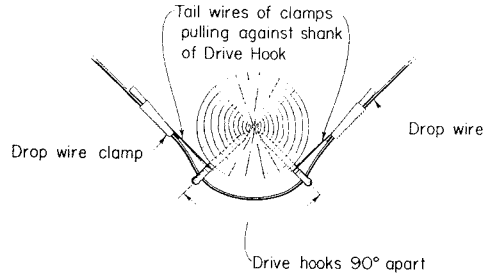

Fig. 6 — Turning Outside Corner
3.07 On outside corner poles where the angle will cause the drop wire to rub against the pole, use two drive hooks to support the wire as shown in Fig. 6.